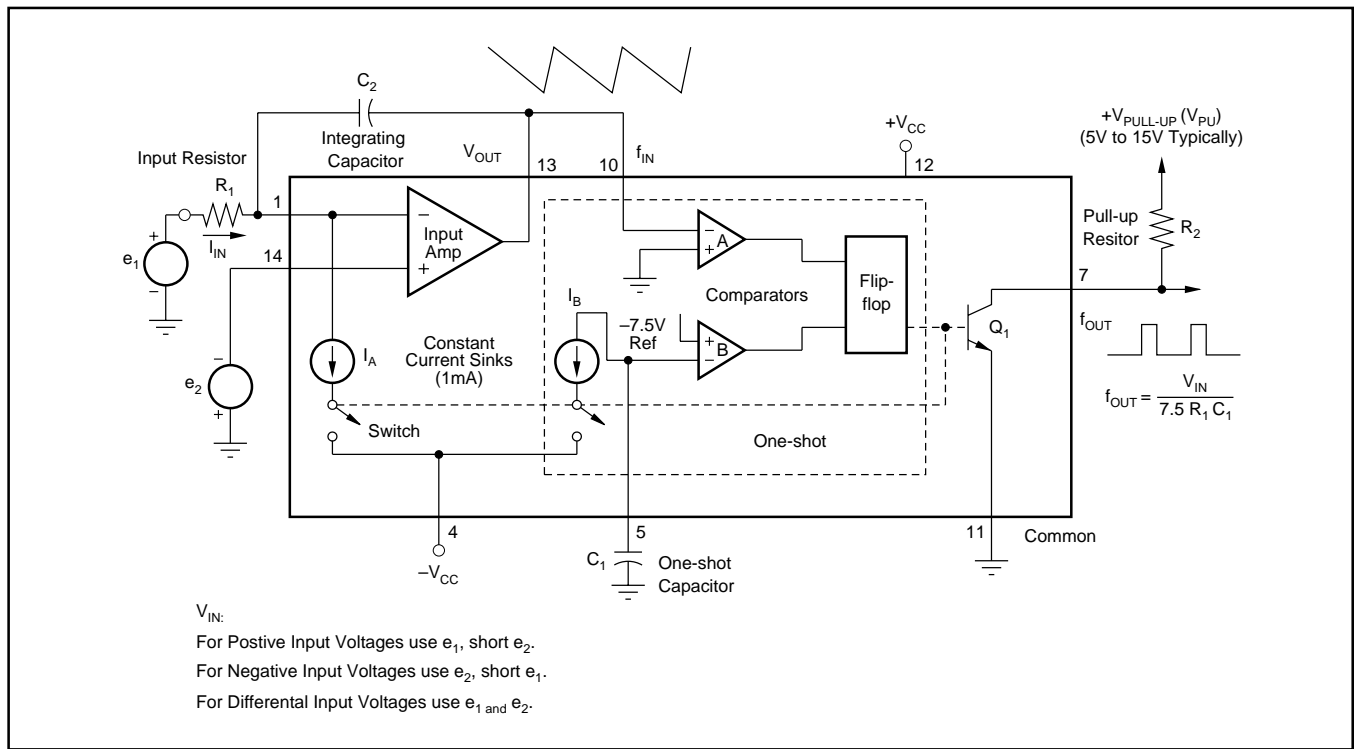
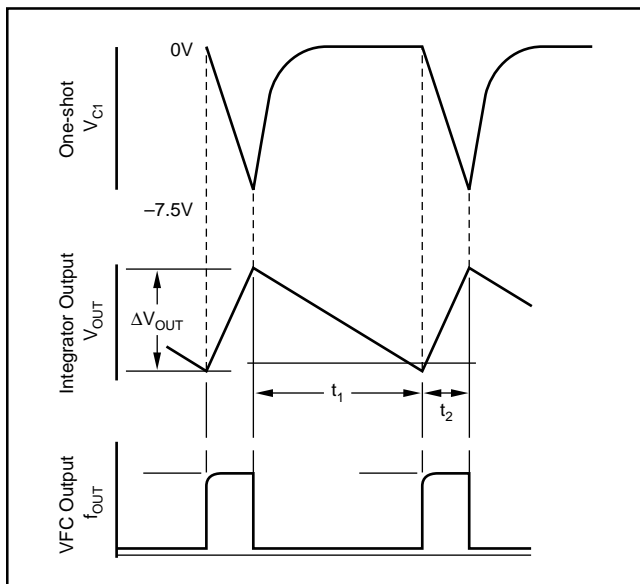

FIGURE 4. Functional Block Diagram of the VFC320.
FIGURE 5. Integrator and VFC Output Timing.
V/F CONVERTER $f_{\text{OUT}} = V_{\text{IN}}/7.5 R_1 C_1$ , Figure 4
The VFC320 monolithic voltage-to-frequency converter provides a digital pulse train output whose repetition rate is directly proportional to the analog input voltage. The circuit shown in Figure 4 is composed of an input amplifier, two comparators and a flip-flop (forming an on-shot), two switched current sinks, and an open collector output transistor stage. Essentially the input amplifier acts as an integrator that produces a two-part ramp. The first part is a function of the input voltage, and the second part is dependent on the input voltage and current sink. When a positive input voltage is applied at  $V_{IN}$ , a current will flow through the input resistor, causing the voltage at  $V_{OUT}$  to ramp down toward zero, according to  $dV/dt = V_{IN}/R_1C_1$ . During this time the constant current sink is disabled by the switch. Note, this period is only dependent on  $V_{IN}$  and the integrating components.
The transfer function for the VFC320 is derived for the circuit shown in Figure 4. Detailed waveforms are shown in Figure 5.
In general, the design sequence consists of: (1) choosing  $f_{MAX}$ , (2) choosing the duty cycle at full scale ( $D_{FS} = 0.25$  typically), (3) determining the input resistor,  $R_1$  (Figure 4), (4) calculating the one-shot capacitor,  $C_1$ , (5) selecting the integrator capacitor  $C_2$ , and (6) selecting the output pull-up resistor,  $R_2$ .